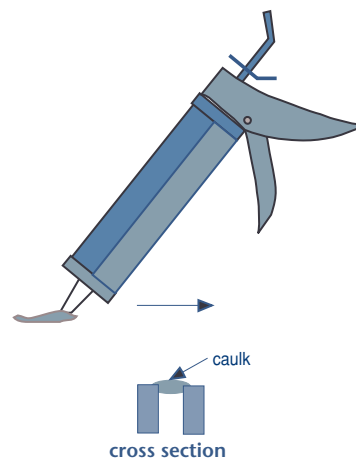

Figure 13: Hold caulking gun at 45° angle, and make sure the bead of caulk is wide enough to overlap and adhere to both sides of the opening.
Most types of caulk are sold in tubes that fit a caulking gun (Figure 13), though some types come in cans and are applied with a putty knife. There are many types of caulk on the market, so you should be able to find one that meets your specific needs. Make sure the type of caulk you choose works on the materials you wish to seal. Table A provides descriptions of common caulking compounds and their uses.
- Cut off the tip of the cartridge nozzle at a 45° angle, keeping in mind that the more nozzle you cut off, the larger the bead will be, (Figure 13).